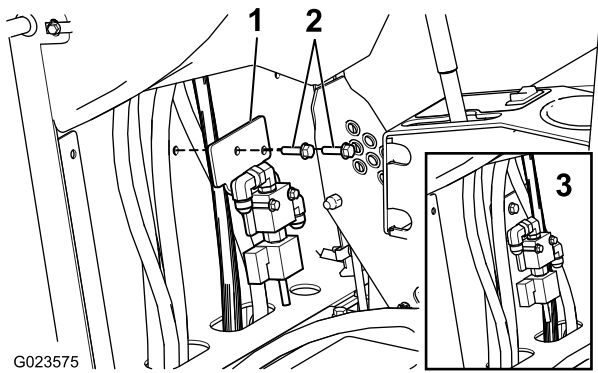

Figure 5
12. Install the valve bracket to the machine frame behind the vertical hoses using 2 flange-head bolts (M8 x 1-1/4 inch) and previously removed nuts as shown in Figure 5.